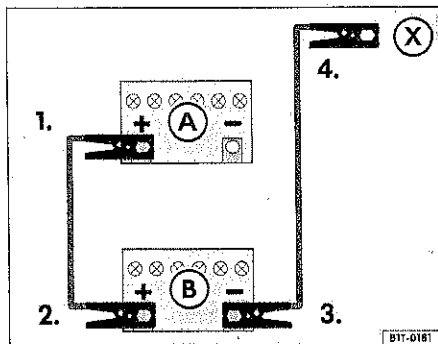

Fig. 47 How to connect the jumper cables.
The ⇒ fig. 47 shows the discharged battery (A) and the battery supplying power (B).